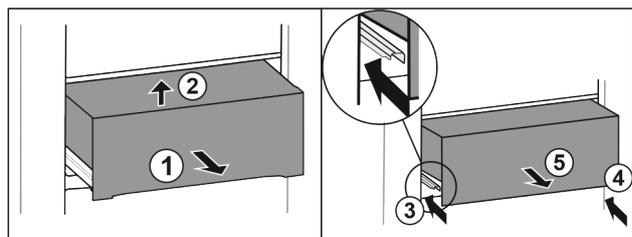

Fig. 33\*
- ▶ Pull out the drawer half-way Fig. 33 (1).\*
- ▶ Lift at the front Fig. 33 (2).\*
- ▶ Insert left rail Fig. 33 (3).\*
- ▶ Insert right rail Fig. 33 (4).\*
- ▶ Take out the drawer to the front Fig. 33 (5).\*